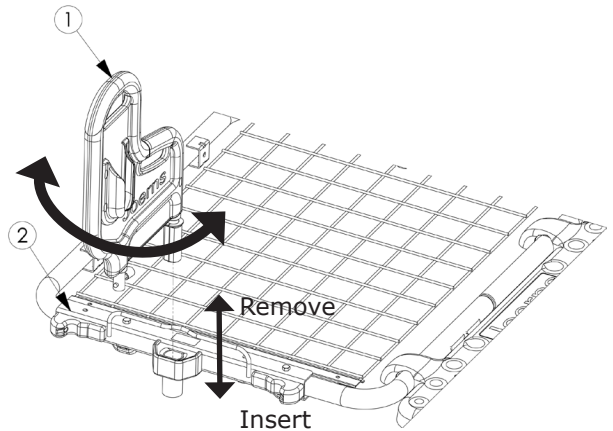

Figure 4
1. Insert the assist handle into the mounting bracket (Figure 4). The assist handle must be perpendicular to the sleep surface.
5. To remove the assist handle: orient the assist handle perpendicular to the sleep surface (Figure 4). Pull straight up on the assist handle to remove.